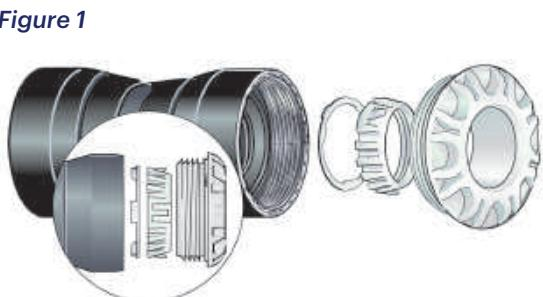

Figure 1
- Remove the nut and slide pipe from fitting. When reassembling the fitting, ensure the components are placed into the fitting body in the correct orientation and assembly order. (Figure 1) Ensure any damaged/blunted grip or split rings are replaced.